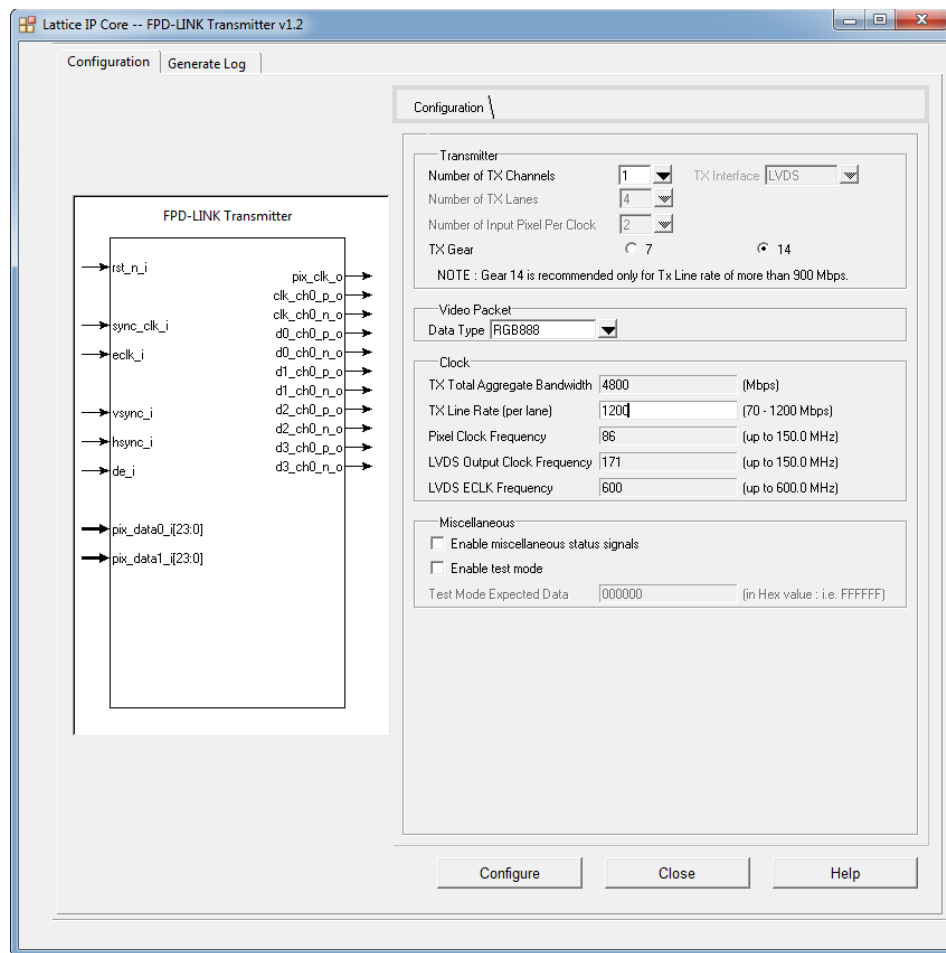

Figure 5.4. Configuration Tab in IP User Interface
3. Click the **Customize** button. An IP configuration interface is displayed as shown in Figure 5.4. From this dialog box, you can select the IP configuration specific to your application.